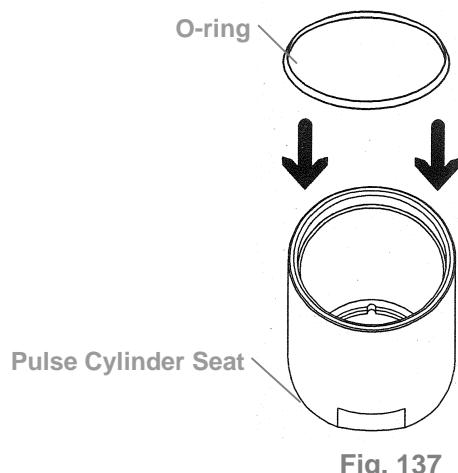
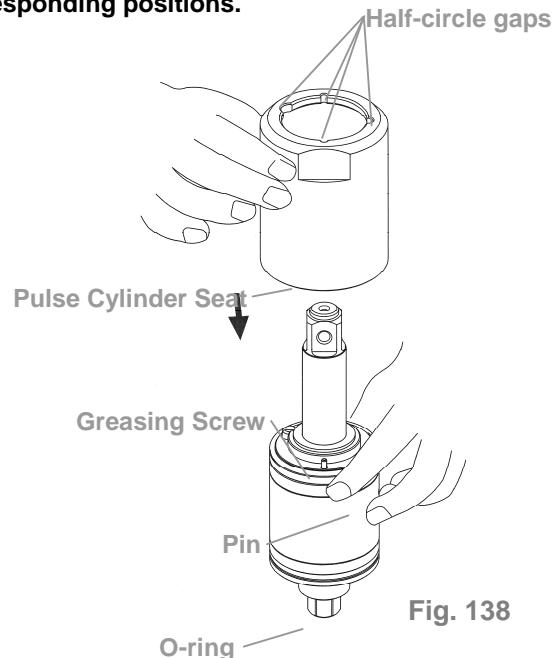

Fig. 137
Fig. 138
**(4) Pulse Cylinder Seat and Lock Nut of Pulse Cylinder Assembly**
- ① Place the o-ring inside the bottom of the pulse cylinder seat, then combine the pulse cylinder seat with the assembled pulse cylinder unit. (Fig. 137, Fig. 138)**